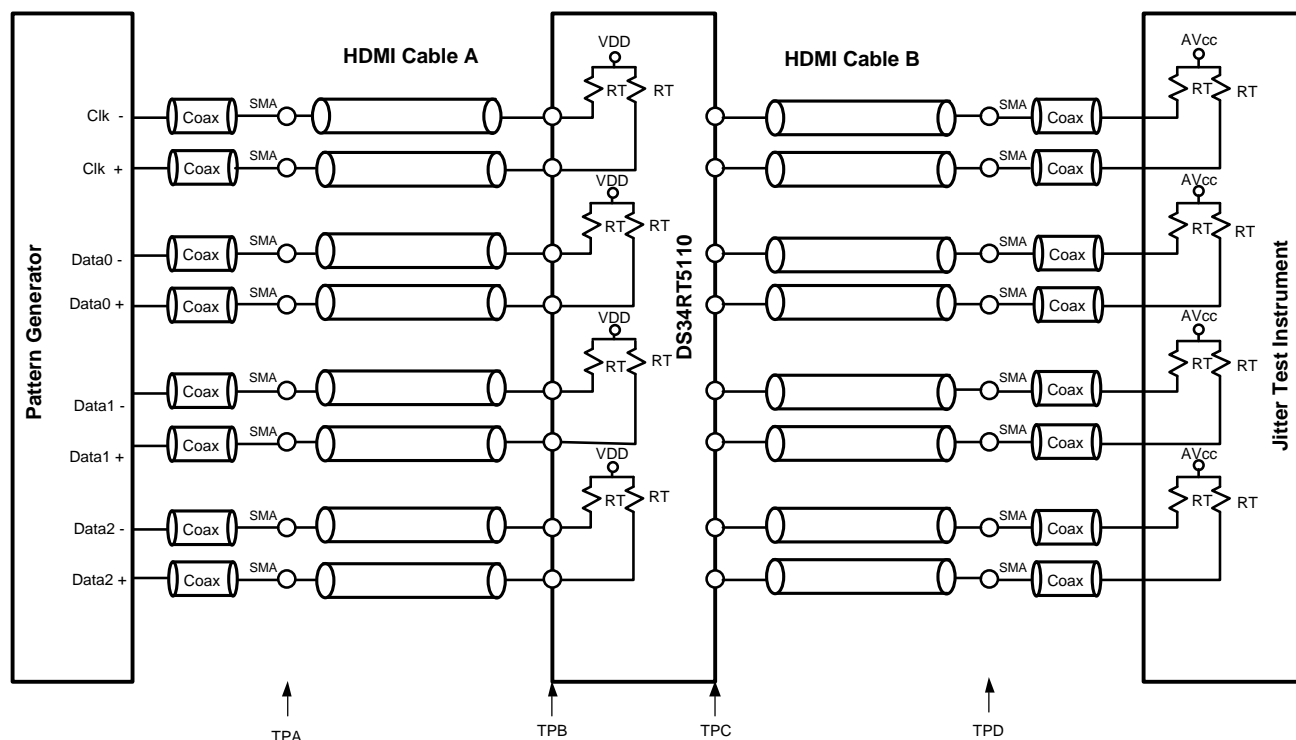

Figure 1. Test Setup Diagram
(3) Parameter is ensured by statistical analysis and/or design.
(4) Deterministic jitter is measured at the differential outputs (TPC of Figure 1), minus the deterministic jitter before the test channel (TPA of Figure 1). Random jitter is removed through the use of averaging or similar means.
(5) Total Jitter is defined as peak-to-peak deterministic jitter from + 12 times random jitter (ps).
(6) Random jitter contributed by the equalizer is defined as  $\sqrt{J_{OUT}^2 - J_{IN}^2}$ . JOUT is the random jitter at equalizer outputs in ps-rms, see TPC of Figure 1; JIN is the random jitter at the input of the equalizer in ps-rms, see TPA of Figure 1.
(7) Parameter is ensured by statistical analysis and/or design.
(8) Deterministic jitter is measured at the differential outputs (TPC of Figure 1), minus the deterministic jitter before the test channel (TPA of Figure 1). Random jitter is removed through the use of averaging or similar means.
(9) Total Jitter is defined as peak-to-peak deterministic jitter from + 12 times random jitter (ps).